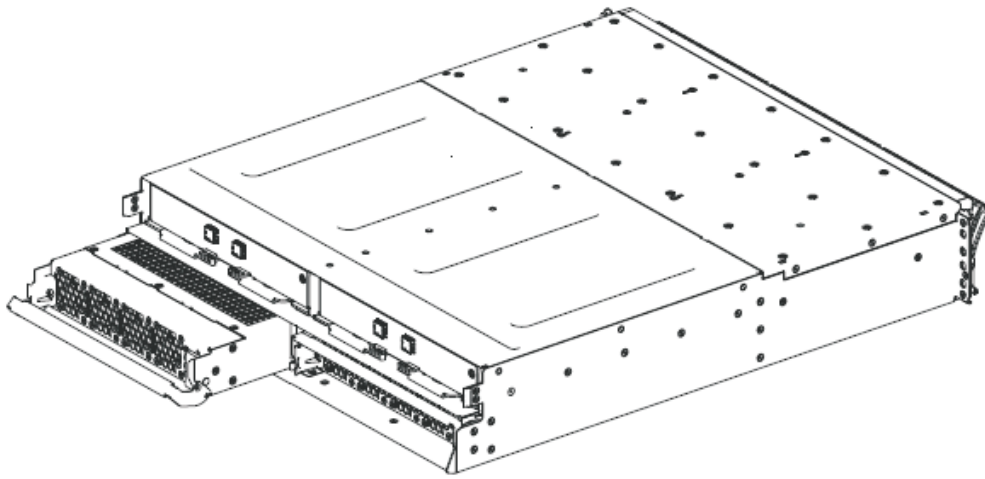

Figure 79. Removing the power supply unit from the left side of the expansion enclosure
5. Using the handle, gently slide the power supply out of the enclosure, as shown in Figure 79.